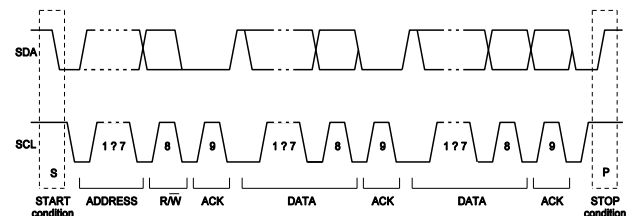

Figure 10: Complete Data Transfer
Data transfers follow the format shown in Figure 10. After the start condition (S), a slave address is sent. This address is seven bits long followed by an eighth data direction bit (r/w). A zero indicates a transmission (write), and a one indicates a request for data (read). A data transfer is always terminated by a stop condition (P) generated by the master. However, if a master still wishes to communicate on the bus, it can generate a repeated start condition (Sr) and address another slave without first generating a stop condition.